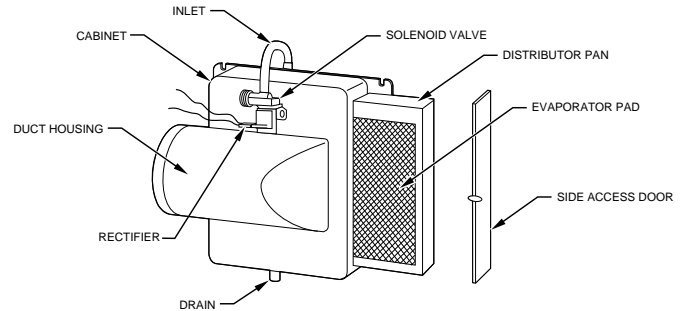

Fig. 8 — Model HUMCCSBP2017-A--
- On a Model HUMCCSBP humidifier, gently pull the latch that secures the access door. Remove the door. Check to see if water is flowing from the solenoid valve into the evaporator pad. (See Fig. 8.)
- To disassemble a Model HUMCCSBP humidifier, gently pull the latch that secures the access panel. Remove the door and slide the evaporator pad assembly out of the unit. (See Fig. 8.)